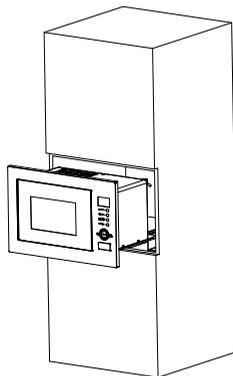

Fig.4
d) Put the product into the cabinet till it is adjustable, as shown in Fig.4.